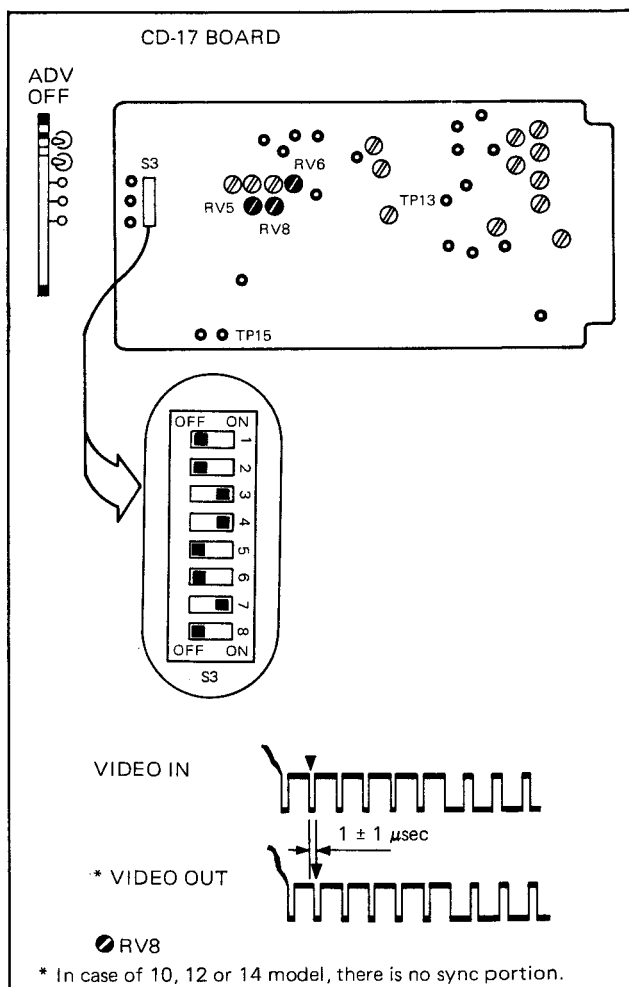

Fig. 3-81. PG Phase Adjustment in the Playback Mode with R/P Head
5. Check that the phase difference between VIDEO IN and VIDEO OUT is within $1 \pm 1 \mu\text{sec}$, as shown in Fig. 3-81.